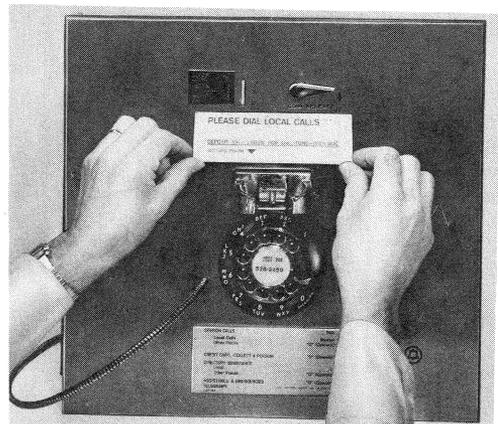

Fig. 25—Installing Instruction Card in 2-Type Set With Cam
- (1) Using a No. 4 (.050) Allen wrench, turn the cam until the low side is adjacent to card opening.
- (2) Push up with fingers (Fig. 25).
- (3) Snap card in place.
- (4) Ensure that card is seated properly in slot.
- (5) Secure card by turning cam 180 degrees, either clockwise or counterclockwise.